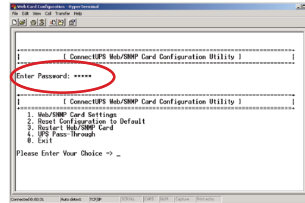

Figure 11. Enter Configuration Password
7. After a few seconds, press Enter. The Password prompt appears (see Figure 11).